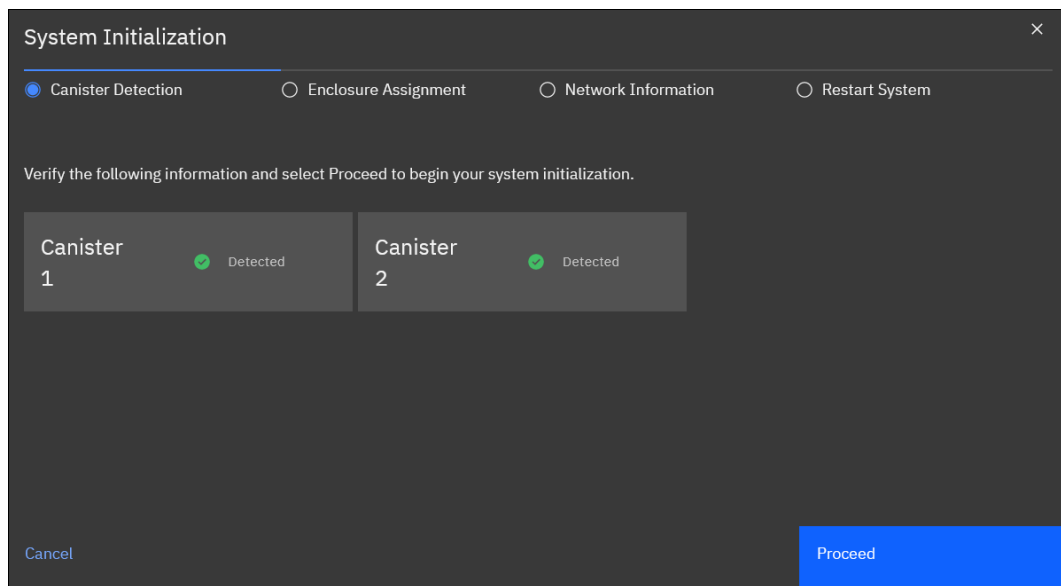

Figure 3-5 System Initialization: Canister detection
4. The System Initialization wizard shows the detected canisters, as shown in Figure 3-5. Click **Proceed** to continue.